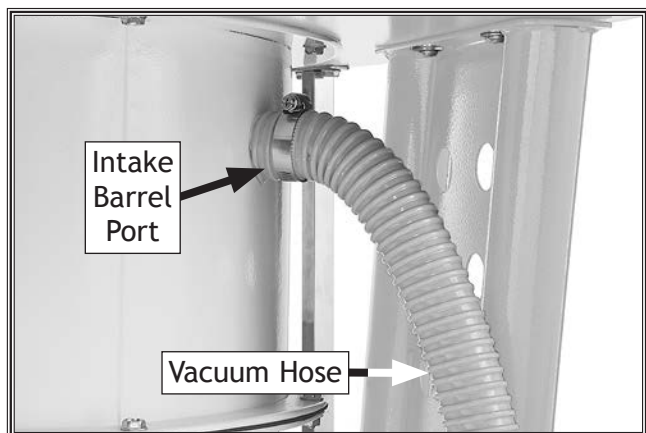

Figure 7. Example of vacuum hose attached to intake barrel port.
7. Loosen hose clamp securing vacuum hose to intake barrel port and remove hose from port (see **Figure 7**).